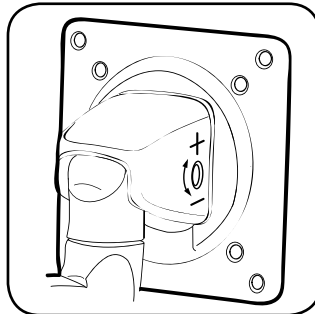

fig. 4.2
Adjust control bolt at top of arm assembly (A) with M4 wrench (D) as shown in figure 4.2.